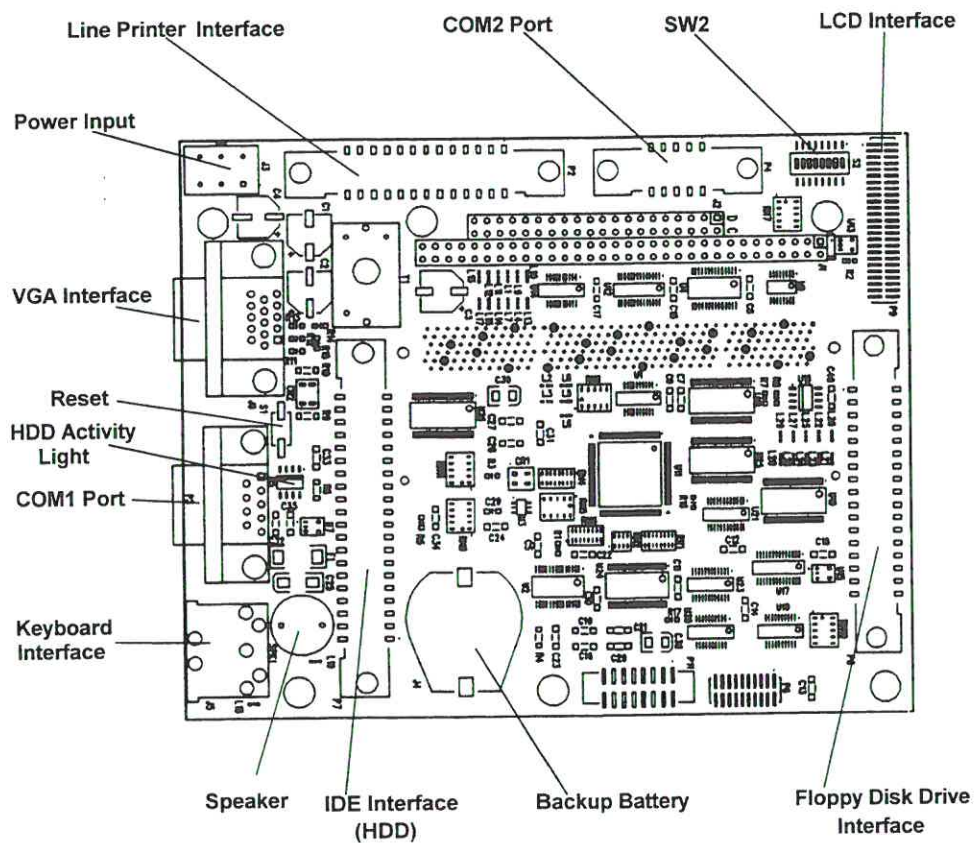

Figure 11 - DSM Processor Board Top View
- S1 is the processor reset switch. Refer to figure 11 for the location of this switch.
- S2 is an eight position DIP switch. It is used to set the IRQ and the base address of the A/D Interface. Refer to figure 11 for the location of this switch. Tables 1, 2, and 3 document the switch settings.